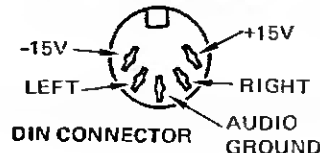

Figure 2. Basic Single-Amplifier System Using an Equalizer and Existing 6 X 9 Speakers
(1) **Adding Equalization.** To improve the system even more, you could add an equalizer, such as an ORION 300 PRQ Pre Amp Equalizer, 600 EQM Equalizer, or 500 PMQ Parametric Equalizer (see page 8). The equalizer would be inserted in the system between the deck and the amplifier as shown in figure 2.